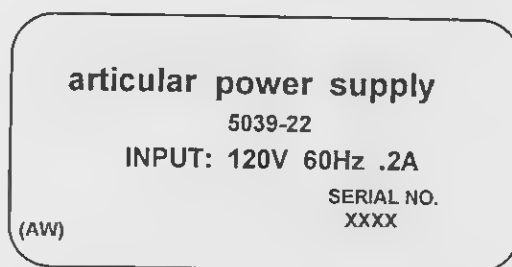

Figure 1-9. Manufacturer data plate.
(1) The manufacturer data plate (located on the back of the APS module) is depicted in figure 1-9.